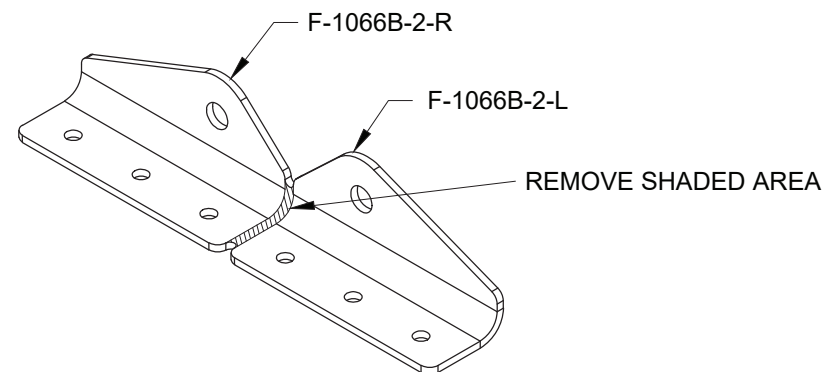

FIGURE 2: SEPARATE FLAP MOTOR ATTACH ANGLES
Step 2: Separate the F-1066B-2 Angle into the F-1066B-2-L and F-1066B-2-R as shown in Figure 2.
NOTE: Refer to Figure 2 on Page 40-7 for the flap motor wiring diagram